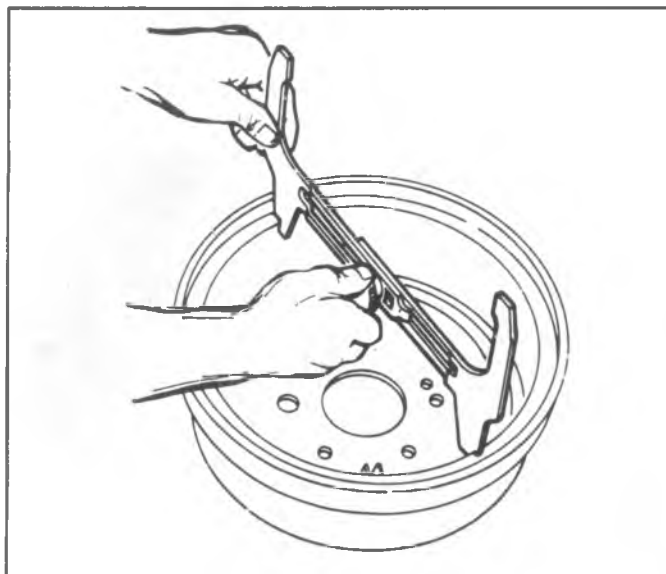
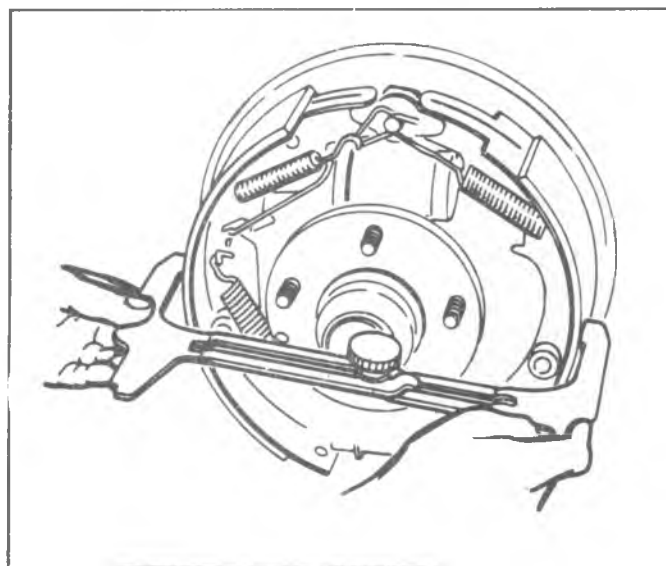

Fig. 5-45--Measuring Brake Drum I.D.
Fig. 5-46--Adjusting Brake Shoes
8. Measure brake drum I.D. using inside caliper portion of Tool J-21177 (fig. 5-45). Adjust brake shoes to dimension obtained on outside caliper portion of Tool J-21177 (fig. 5-46).
9. Measure brake drum I.D. using inside caliper portion of Tool J-21177. Adjust brake shoes to dimension obtained on outside caliper portion of Tool J-21177 (figs. 5-45 and 5-46).